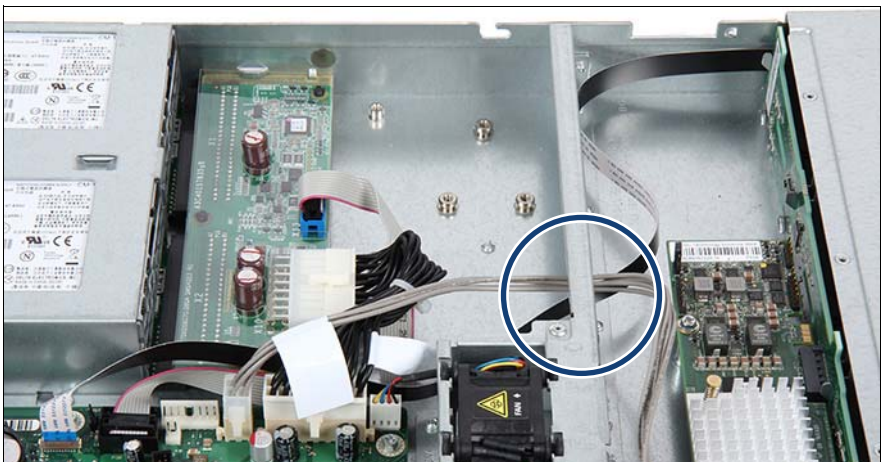

Figure 177: Disconnecting the front panel cable (B)
- ▶ Thread the front panel cable through the opening (see figure 177).